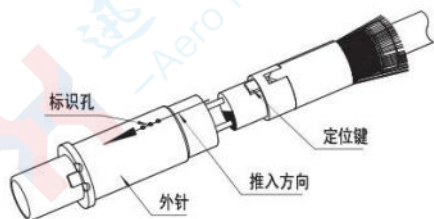

图1.12 插针绝缘子的定位键正对外针的标识孔
4) Align the locating key of the pin insulator with the index hole of the outer pin, push the entire assembly into the outer pin, and press the crimp sleeve tightly, as shown in Figures 1.12, 1.13, and 1.14.